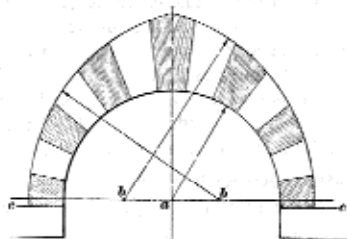

FIG. 52.
97. Fig. 52 shows an arch having the intrados semicircular and the extrados pointed. Such arches are found in Venice, and are sometimes termed *Venetian Gothic* arches. At  $a$  is the center for the semicircular intrados; at  $b, b$  are the centers for the extrados, or pointed arch; and at  $c, c$  is the springing line.
Sometimes two of the voussoirs are cut from one stone, with a false joint between. Although this is generally done for economy, there are cases when the stability of the arch is thereby increased; as, for example, when the skewbacks are made twice the size of the remaining voussoirs, the number of joints is decreased, thus tending to strengthen the arch. In the case of a pointed arch, as shown in Fig. 52, the keystone should be made in two pieces, as the danger of its cracking or slipping is very much lessened when this is done.